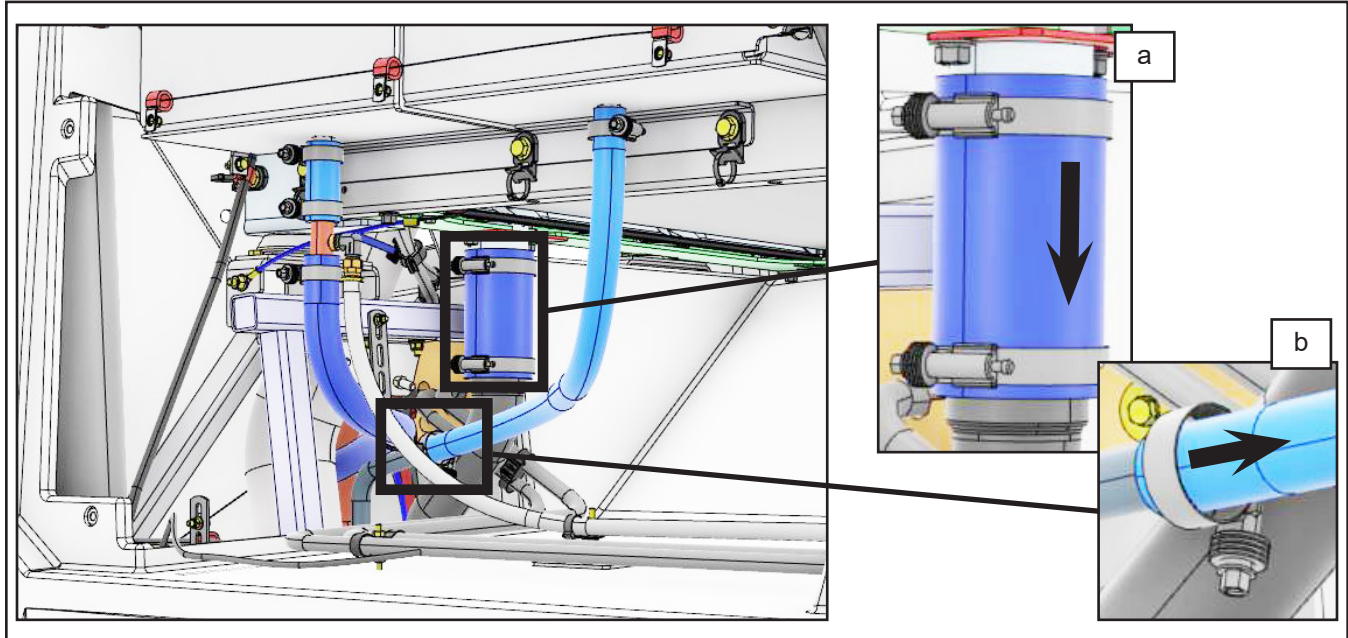

Figure 6 - Cooling Hoses to Disassemble
- a. In radiator compartment, loosen the two clamps with Belleville washers on the large blue cooling hose and slide down onto the black pipe (Figure 6.a) (**attn: coolant may spill**). Loosen the clamp with Belleville washers on the small blue cooling hose and remove from the pipe (Figure 6.b) (**attn: coolant may spill**).